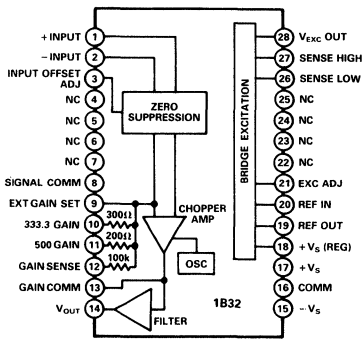
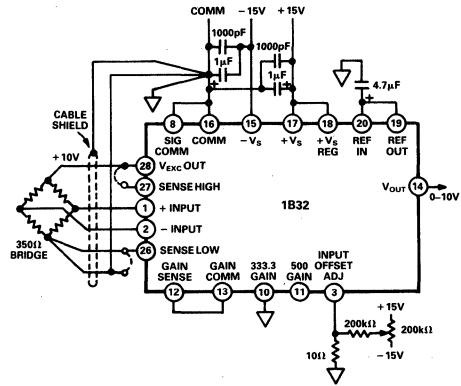

Figure 1. 1B32 Block Diagram and Pinout
Figure 2. Internal Gain Strapping
As shown in Figure 1, the gain can be pin-strapped by an internal resistor network. Standard gains of 333.3 and 500 can be achieved by this method with gain tempco of  $\pm 6\text{ppm}/^\circ\text{C}$  max. Finally, the offset adjust of the amplifier is input referred, and requires a voltage input similar to the differential input voltage to implement wide range suppression.
**Gain Setting:** The differential gain of the 1B32 can be either pin-strapped or programmed externally with two resistors. The internal thin-film gain network (Figure 1) provides gains of 500 and 333.3 for standard load-cell sensitivities of  $2\text{mV}/V$  and  $3\text{mV}/V$ . This is achieved by connecting GAIN SENSE (Pin 12) to GAIN COMM (Pin 13) and grounding Pin 10 or Pin 11 (Figure 2). The gain tempco using the internal network is an excellent  $\pm 2\text{ppm}/^\circ\text{C}$  typ ( $\pm 6\text{ppm}/^\circ\text{C}$  max).
**Offset Adjustment:** The input-referred offset adjust has the same sensitivity as the inputs of the 1B32. The voltage level at INPUT OFFSET ADJ (Pin 3) is gained by the same factor as the input signal to provide a  $\pm 10V$  output adjust. Figure 2 shows an external network and potentiometer set up for a  $\pm 7.5\text{mV}$  span at the input, which gives a  $\pm 2.5V$  ( $7.5\text{mV} \times 333.3$ ) output adjust capability. Wider ranges can be chosen with the appropriate resistor and potentiometer values.
The remote sensing inputs should be connected to the transducer separately from the excitation leads or jumpered as shown in Figure 2. The resistance of the excitation and sense lines should not exceed 10Ω.
**Power Supply:** The  $V_S$  REG input (Pin 18) should be connected to + $V_S$  (Pin 17) even if the bridge excitation section is not used. Also the power supplies should be decoupled with 1µF tantalum and 1000pF ceramic capacitors as close to the 1B32 as possible (Figure 2).